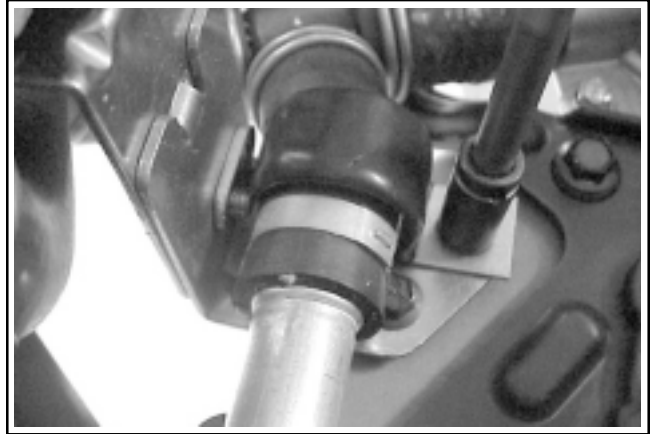

Figure 9-33. Rear Bracket/Clamp.
3. Remove the two screws attaching the rear support bracket and half clamp to the crankcase, on the oil filter side. See Figure 9-33.